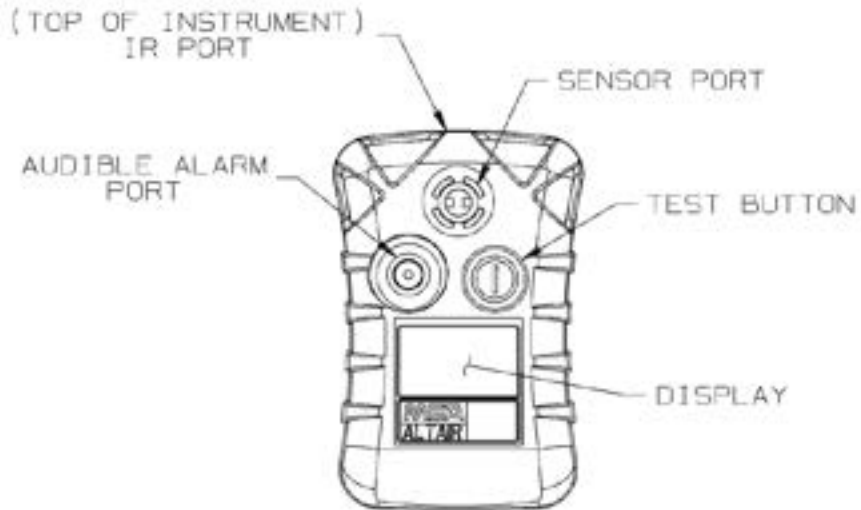

Figure 1 Altair Overview
2.3 Altair Alarms**Toxic Gas Measurements** (see Figure 1)